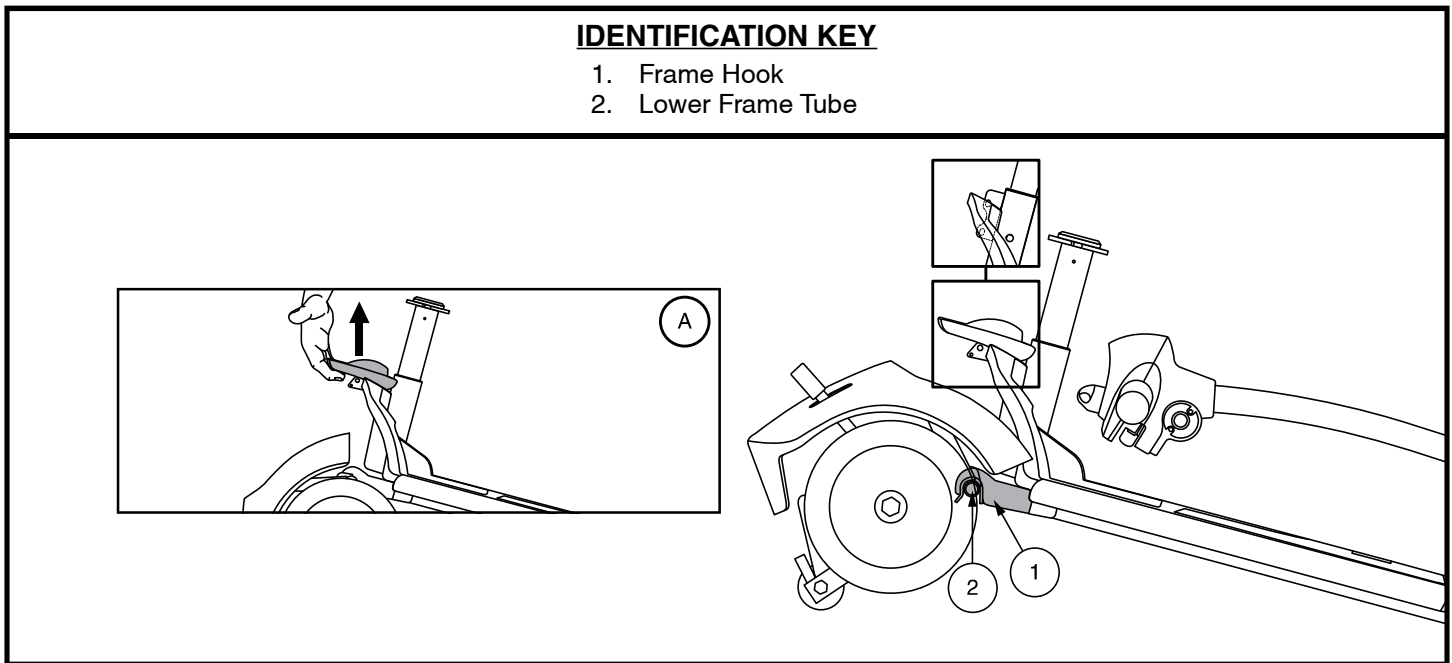

Figure 19. Frame Release Lever (Style A)
3. Slowly separate the two sections of the vehicle. **See figure 19.**
1. Use the frame release lever to lift the front section as you align the frame hooks of the front section with the lower frame tube of the rear section. **See figure 19.**
2. Once the frame hooks are over the lower frame tube, lower the front section and pivot the rear section simultaneously. This will engage the frame lock-up automatically. **See figure 19.**